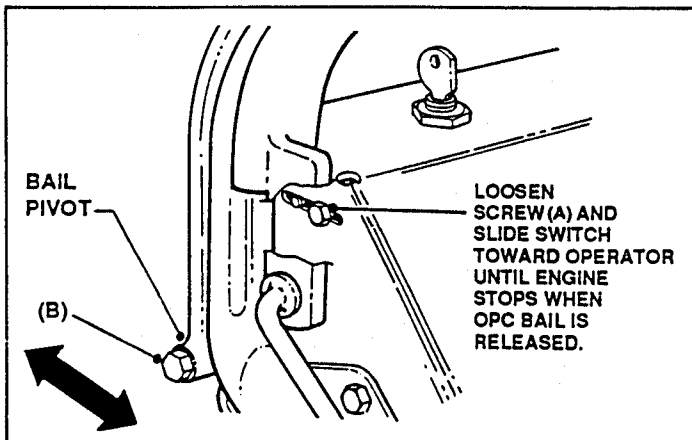

FIGURE 59
2. To adjust OPC Bail Switch, loosen screw (A) and slide Switch to proper position. Clearance between tab and Switch button when OPC Bail is released should be 1/32" to 1/16")
3. OPC Bail travel can be adjusted by loosening mounting bolts (B) and moving Bail pivot forward/backward. See Figure 59.